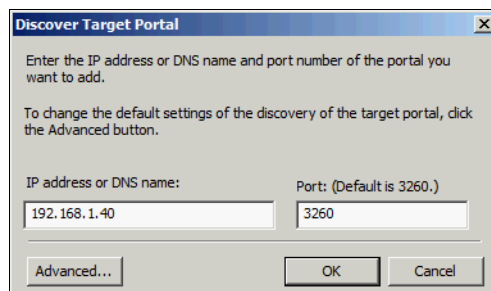

Figure 12-20 Discover Target Portal window
- Click **Discover Portal...**, enter the IP address of another IBM Flex System V7000 Storage Node iSCSI port (Figure 12-20), and click **OK**.